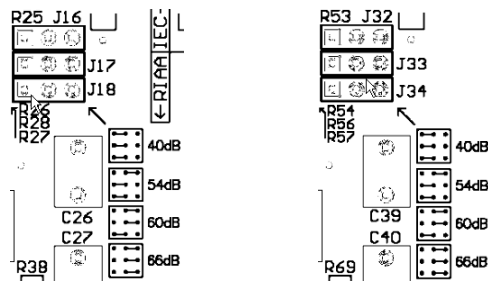

Figure 8: Left and right channel jumper banks for gain level settings
There are three (3) jumpers sockets for each channel that are used to adjust the gain level setting; J16, J17 and J18 for the left channel; J32, J33 and J34 for the right channel. Each of these jumpers sockets have three pins allowing for 2 different possible positions. As well, there is a detailed diagram printed on the circuit board, located just below and to the right of each of these jumper banks, that shows the jumper positioning for the four available gain settings (see figure 8).